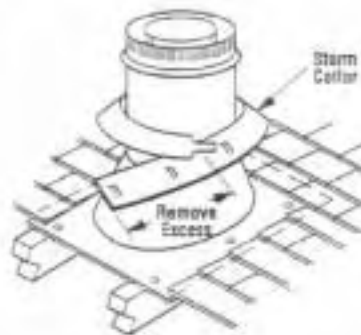

Figure 22
J. Install the storm collar, supplied with the flashing, over the vent/flashing joint. Wrap the storm collar around the vent noting which locking groove clips overalls with the tab (Figure 22). Pencil mark excess material, unwrap and trim excess with shears. Reposition collar, insert tab through both slots, pull tab so that collar is tight around vent. Slide collar down until it meets top of the flashing. Bend tab back over slot. Apply noncombustible caulking or mastic around circumference of the joint and the tab slot area to provide a water tight seal.